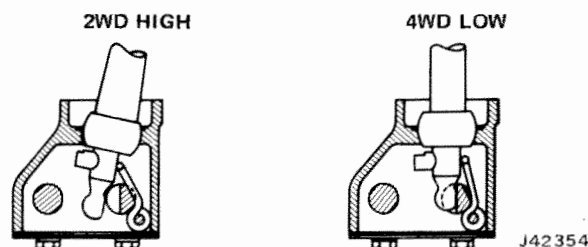

Fig. 8-5 Lever and Spring Positions
**Spring Operation** - In the 2WD High and 4WD High positions, the spring legs are in the notches in the inner rail, and the shank of the shift lever (between the pivot ball and the end ball) just touches the horizontal section of the spring (fig. 8-5). When the shift lever is in the normal 4WD High position and the crossover is made moving the manually operated end of the shift lever to the right to the 4WD High - Neutral - 4WD Low range, the shank of the shift lever pushes the spring out of the notches, allowing the inner rails, as well as the outer rail, to be moved to the rear.